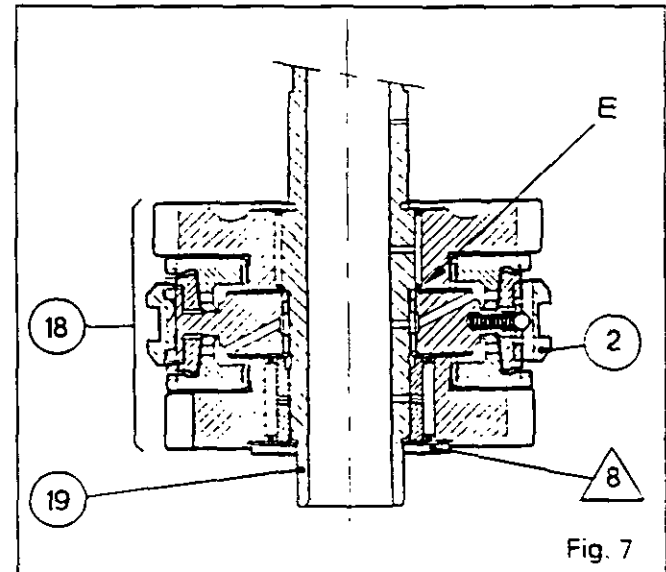
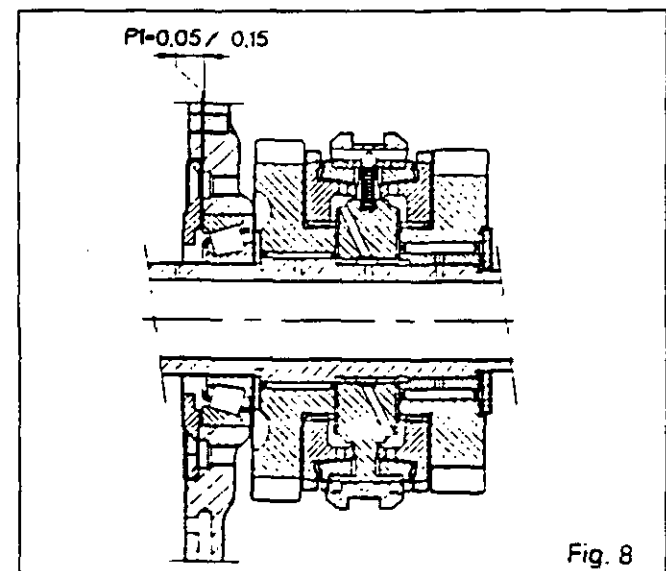

Fig. 7
Fig. 8
36. Centre the washer /8\ . By the front bore of the unit, fit the secondary shaft (19) in synchromesh/gear assembly (18). Place recess "E" fully home on the synchromesh (2) (Fig. 7).
37. Position the cup (37) and the retaining plate (25) without the shims [1].
38. Fit and tighten screws (36) to a torque of 36 - 46 Nm.
40. Shim (Fig. 8) to obtain a preload :